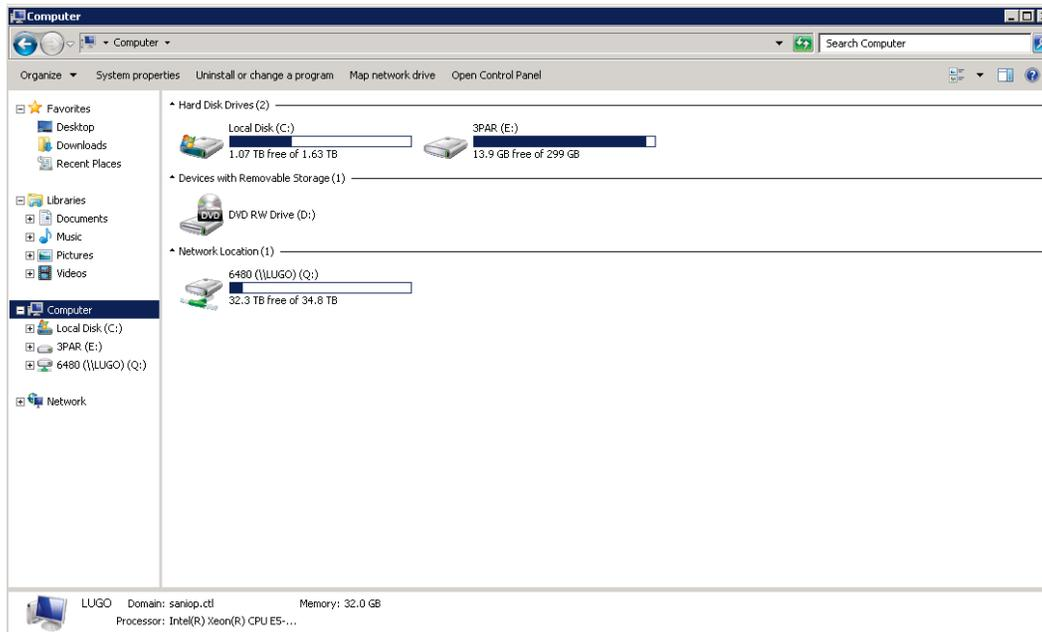

Figure 21. Mounted LTFS volume for an MSL6480 Tape Library with LTO-6 media
3. Click on **Mount** and the LTFS integral volume will be mounted. See **figure 21** as an example of what an LTFS volume consisting of LTO-6 tape media looks like. Files can now be copied to and from the MSL6480 Tape Library the same as disk.